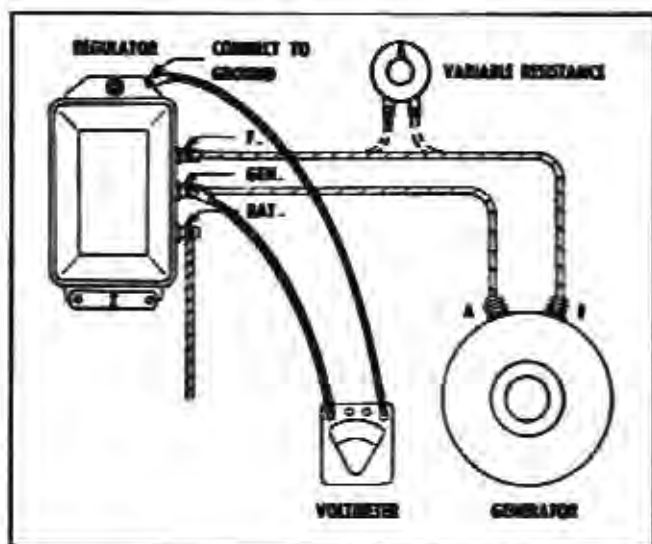

Fig. 11-28 Connections for Checking Closing Voltage
1. Connect a voltmeter between the regulator "GEN" terminal and ground (Fig. 11-28).